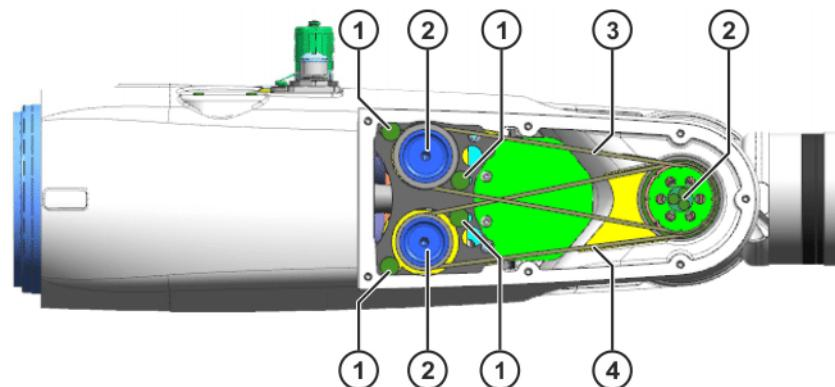

Fig. 9-6: Removing the toothed belt – example
2. Slacken 2 M4x10-10.9 fillister head screws on motor A5 and motor A6 (>>> Fig. 9-6).